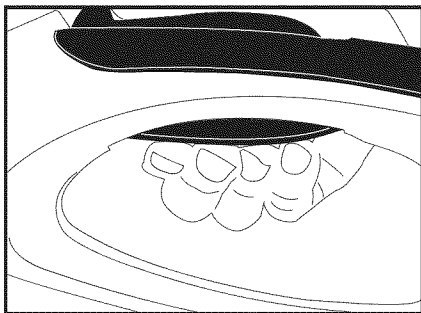

Figure 8
3. While holding the switch under your thumb in the forward position, use your fingers to pull upward on the control trigger. (see figure 8) This will energize the tool and allow you to do your work. It is NOT necessary to keep pressure on the thumb switch after the tool has started.